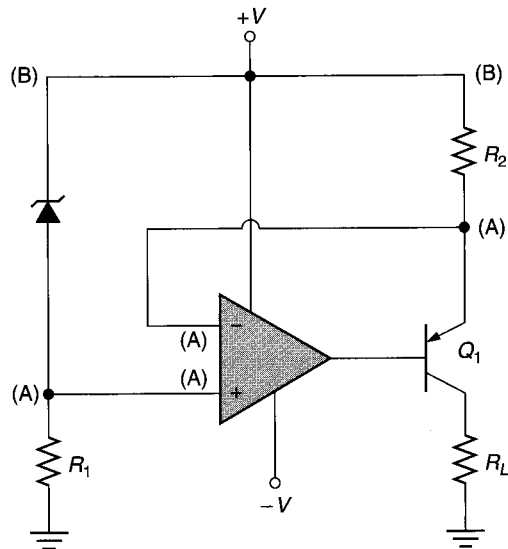

FIGURE 16.32 Voltage-controlled current source.
As you know, a *current source* is a circuit that produces a constant-value output current. A **voltage-controlled current source** uses an input voltage to set the value of its output current. Such a circuit is shown in Figure 16.32.
21. A *voltage-controlled current source* is a circuit with a constant-current output that is controlled by the circuit input voltage (see Figure 16.32).